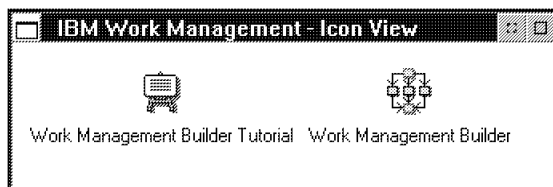

Figure 12. IBM Work Management Window
1. Double-click on the Work Management Builder Folder icon on the OS/2 desktop. You see the IBM Work Management window shown in Figure 12.